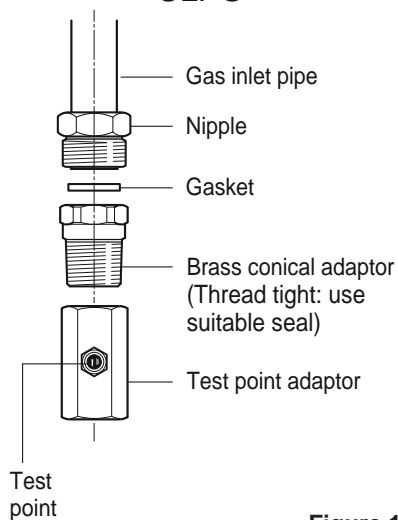

Figure 12a
- Before connecting the appliance to the gas main, mount the brass conical adaptor onto the gas inlet pipe, upon which the gasket has been placed (figs. 12a - 12b). Conical adaptor and gasket are supplied with the appliance (packed with conversion kit for use with Natural gas or ULPG).
- For ULPG models the gas supply is connected to the test point adaptor which is supplied with the appliance (fig. 12a) and ensure that the supply pressure is regulated to 2.75 kPa.
- If the cooker is suitable for use with Natural gas and must be converted for use with ULPG, before connecting to the gas mains remove the appliance gas regulator and replace with test point adaptor (see figs. 12a - 12b).
- If the cooker is suitable for use with ULPG and must be converted for use with Natural gas, before connecting to the gas mains remove the appliance test point adaptor and replace with gas regulator (see figs. 12a - 12b).